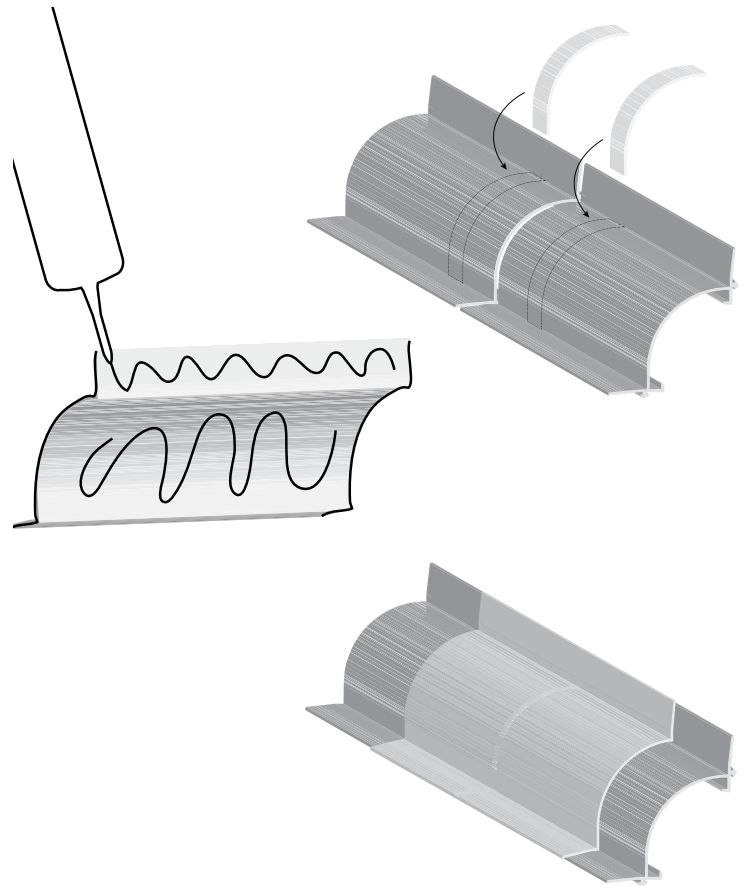

Figure 11—Splicing Installation
2. Place a metal support band just inside of both face seal sections (Figure 11).
4. Apply sealant to the sheet in a zig-zag pattern (Figure 11).
5. Place the sheet so it is centered over the splice (Figure 11).